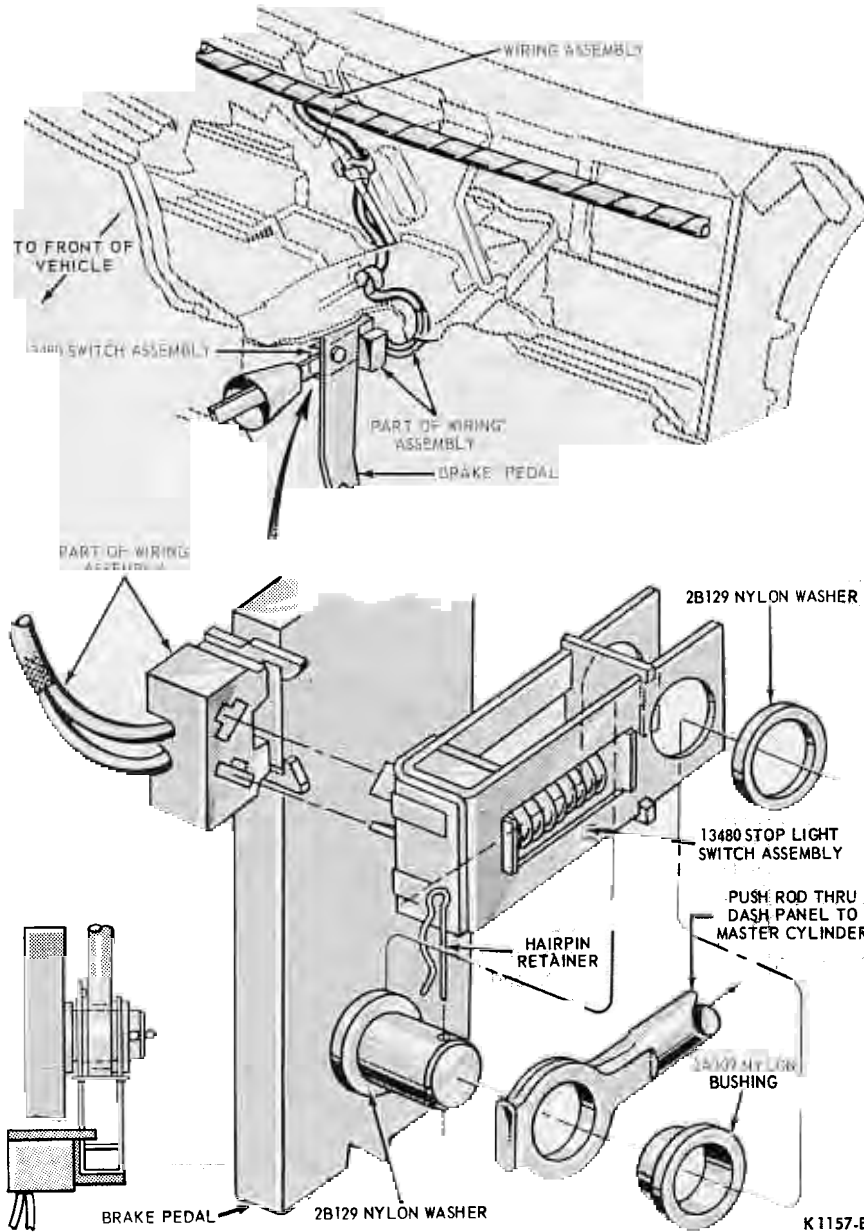

FIG. 5—Mechanical Stoplight Switch Assembly
rod and the nylon washers and bushing away from the pedal, and remove the switch (Fig. 5).
3. Position the switch, push rod, and bushing and washers on the brake pedal pin, in the order shown in Fig. 5, and install the hairpin retainer.
4. Connect the wires at the connector, and install the wires in the retaining clip (Fig. 5).